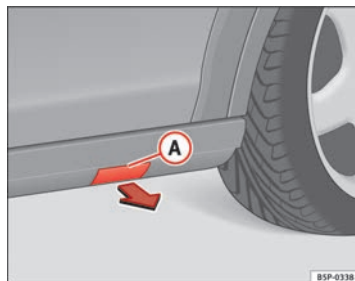

Fig. 181 Plastic sill panel trim with jack allotment cover
- Remove the cap (A) to access the anchor point for the vehicle jack ⇒ Fig. 181.
- Pull on the cover and remove it from its allotment in the direction of the arrow ⇒ Fig. 181.